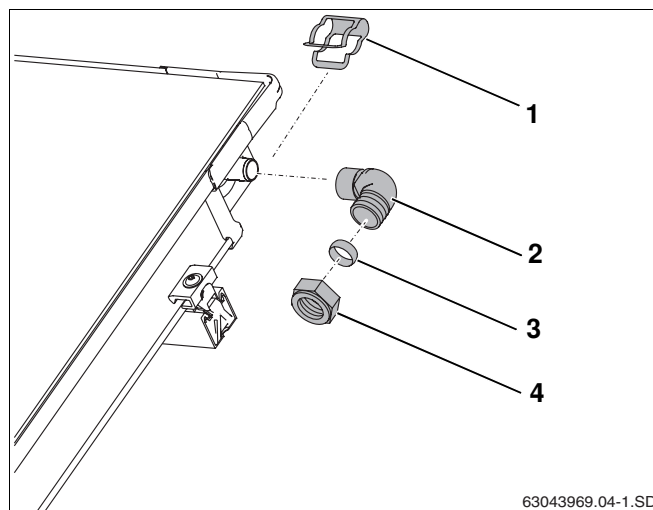

Fig. 57 Fitting flow line (with no vent on roof)
- Push elbow (Fig. 57, **Item 2**) with olive and union nut onto collector connection.
- Secure elbow with bracket (Fig. 57, **Item 1**).